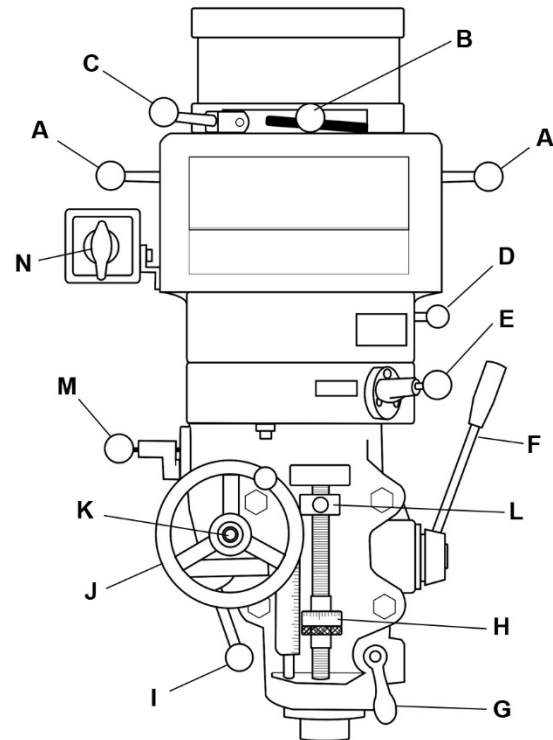

Figure 5: controls
Refer to Figure 5:
- A. **Motor Lock (Belt Tension) Levers (A, Figure 5)** – Slide levers to loosen motor mounting; shift motor to release tension on belts and reposition belts for different speed range.
- B. **Speed Range Selector (B)** – Mill is in high speed range when selector is in front position